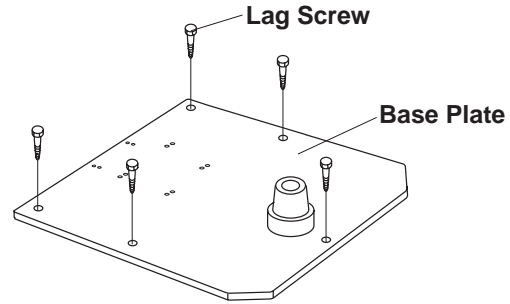

Fig.3-13 Fixing Base Plate to Floor
1. Fix the base plate on the floor with 5 lag screws (supplied) or with appropriate means. (Fig.3-13)